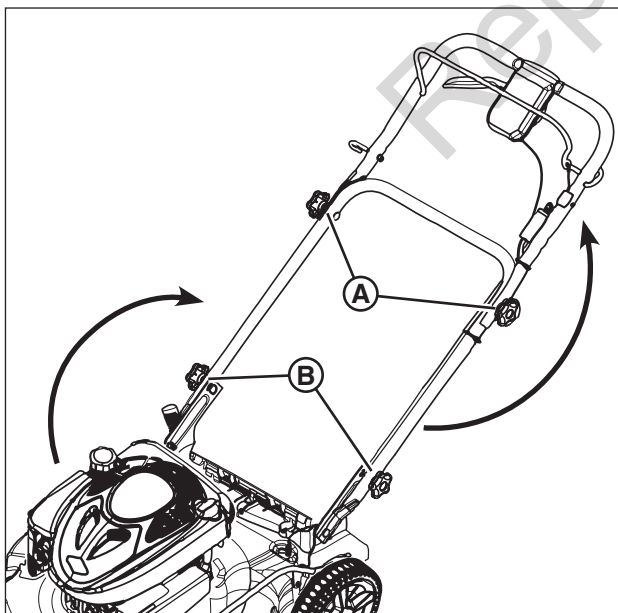

Figure 1: Raising the handle assembly
1. Loosen, but do not remove, the knobs **(A, Figure 1)** on both sides of the upper handle.